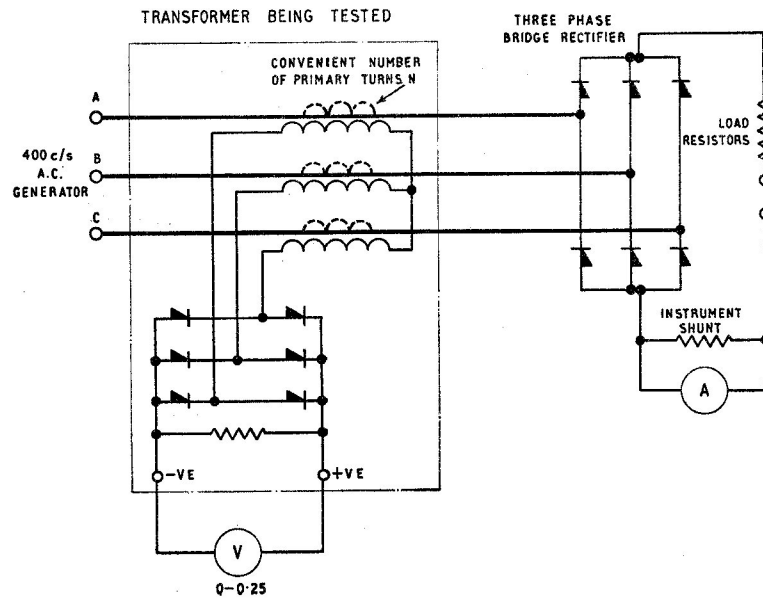

Fig. 3. Suggested circuit diagram for testing transformer unit
10. If the test rig for the rectifier and a.c. control unit, Type LKB 400 is available, the three cables connecting the a.c. generator, Type 3016-B, to the LKB 400 should be passed through the three holes in the current transformer under test. When using a lower power test rig, the transformer should be connected in a similar manner, i.e. between the a.c. generator and the three-phase rectifier as shown in fig. 3.